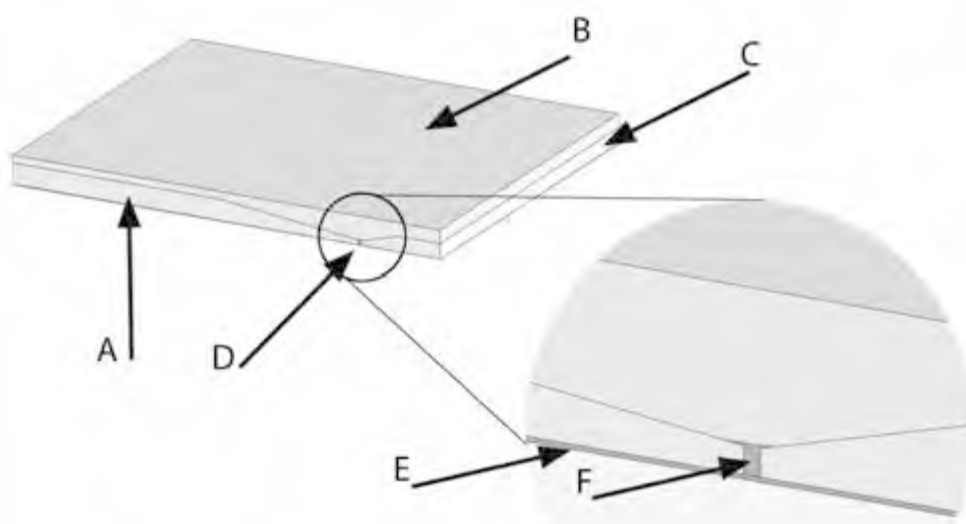

Figure 11. Laminating
9. Continue laminating over the whole installation insert and the chamfers until the final thickness of 20 mm is achieved (figure 11).